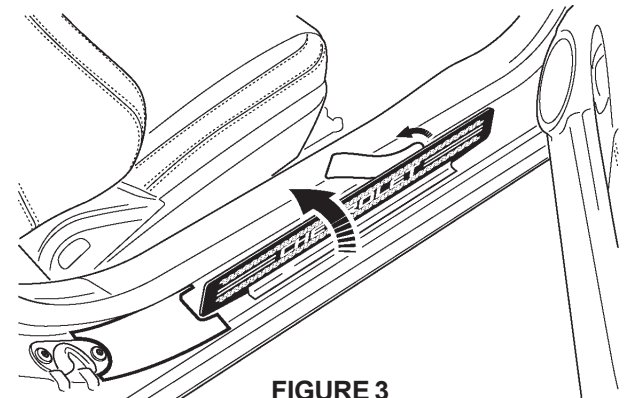

FIGURE 3
6. Carefully flip the sill decal back over and using a clean cloth, work from the center and rub the sill decal down. Refer to figure 3.